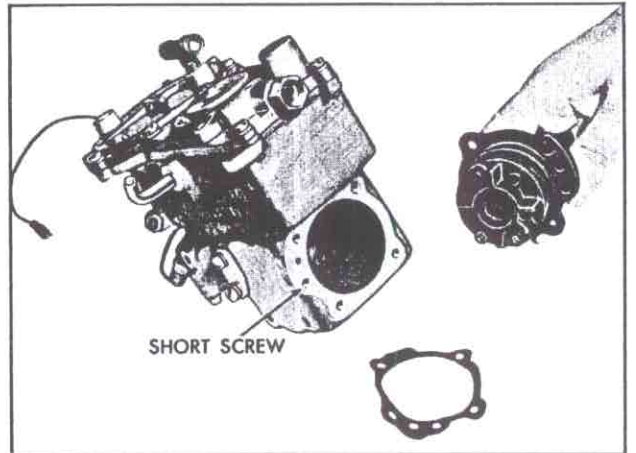

Fig. 131—Removing Fuel Meter Fuel Pump
3. Remove high pressure fuel pump and gasket (fig. 131) by removing five attaching screws. **Do not further disassemble fuel pump!**